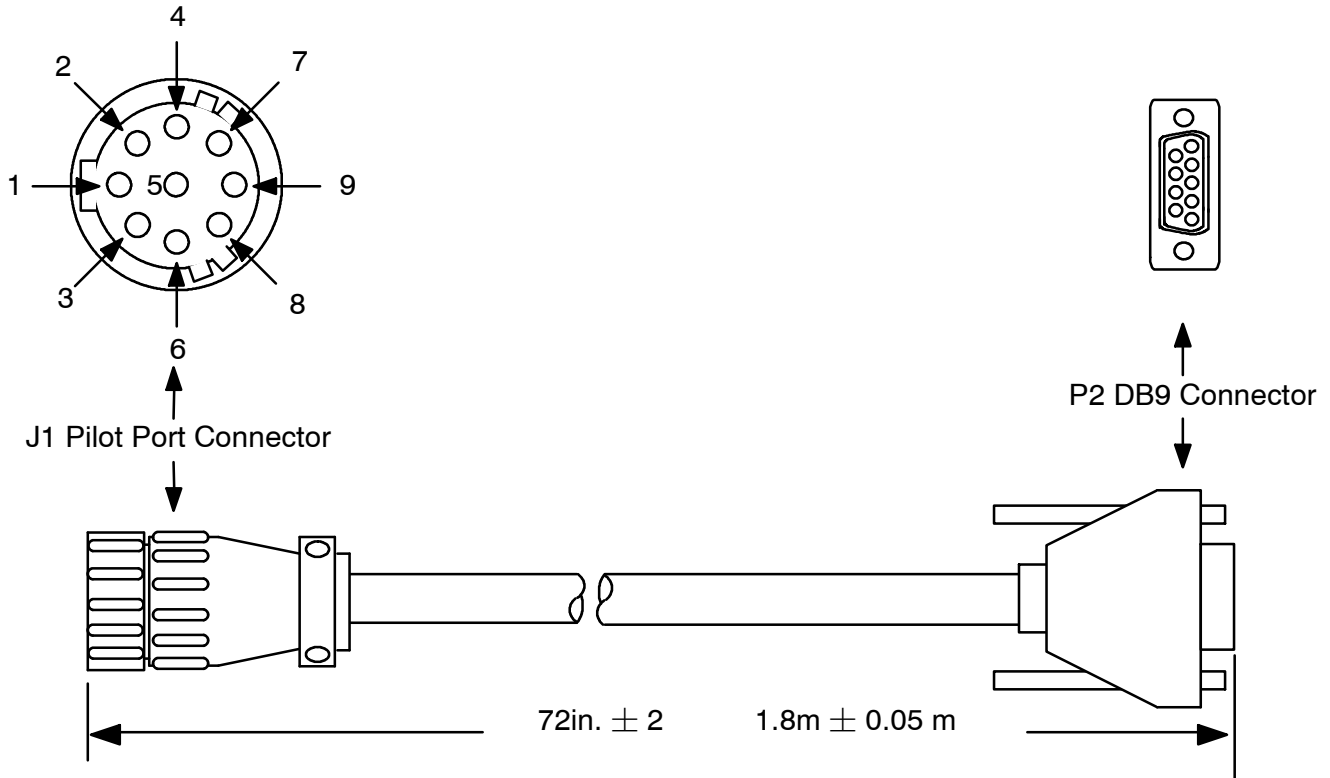

Figure 3-8. Pilot Port Cable
- (13) If an external display system is to be connected, lead the pilot port cable from the display unit to the terminal block. (Refer to Figure 3-8.)